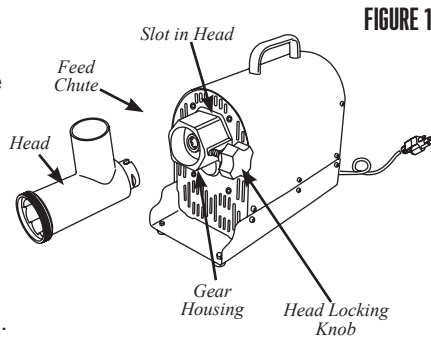

FIGURE 1
1. Insert the Head into the Gear Housing with the Feed Chute facing straight up. You will need to line up the slot in the Head with the Pin inside the Gear Housing. Be sure the Head is seated fully into the Gear Housing (Figure 1).